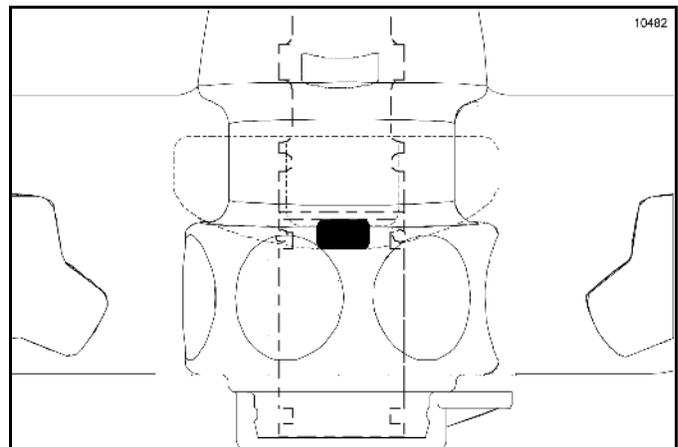

Figure 2-140
7. Lubricate the two O-rings and install the solenoid adjust tool into the door spout. Lift the draw valve to insert the tool into the door. Install the restrictor cap to retain the tool with the draw valve in the raised position. (See Figure 2-140.)